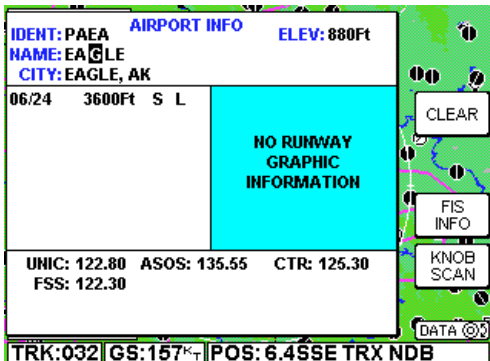

Figure 12
5. Turn the outer knob clockwise until the cursor is positioned for the next character. Turn the inner knob to select a **G** as in Figure 12.